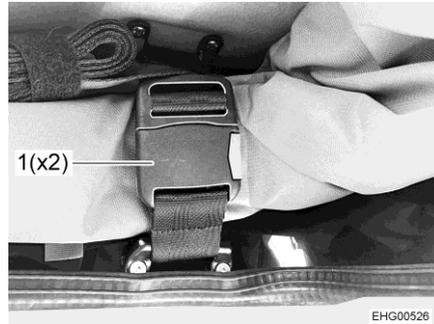

Fig. 31 Belt lock
- Open both belt locks (Fig. 31,1).